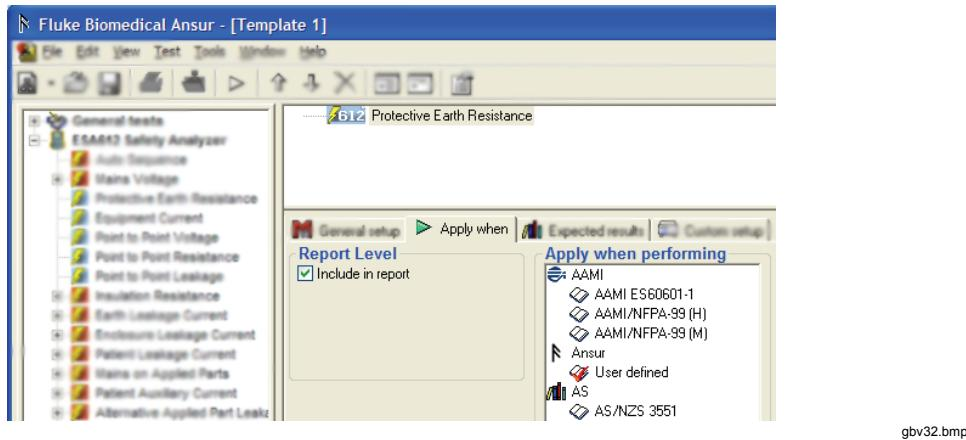

Figure 3-23. Apply When Tab
2. Click the **Apply When** tab below the list of test elements as shown in Figure 3-23.